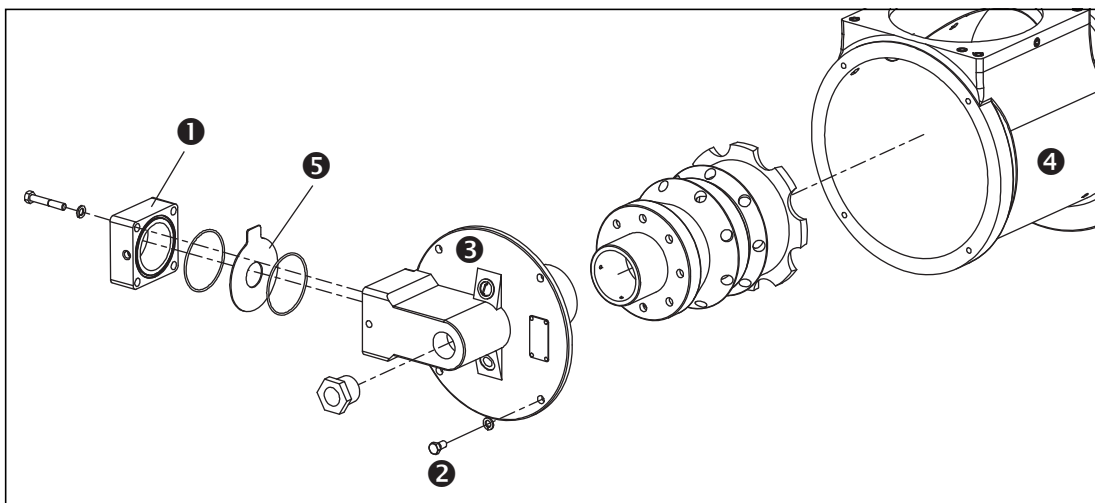

Figure 5.1.
6. Remove and clean the orifice plate ❹, see Figure 5.1.
The nozzle and combustion tube/block can be inspected without removing the burner from the chamber wall or entering the chamber. See Figure 5.1. Perform the following: